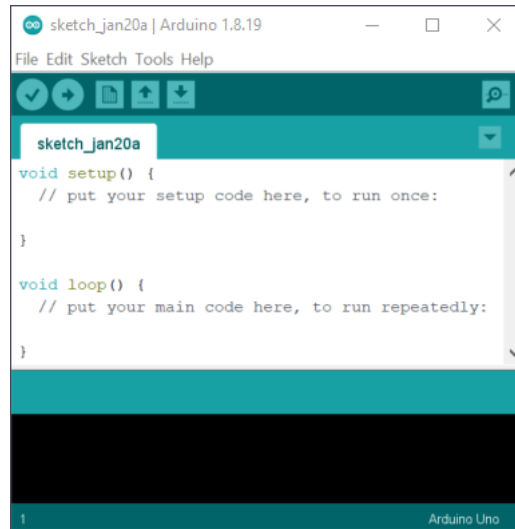

Figure 2.1: This is what the Arduino IDE should load up to.
9. It should load up with a window that looks like Figure 2.1.
7. It should load up with a window that looks like Figure 2.1.